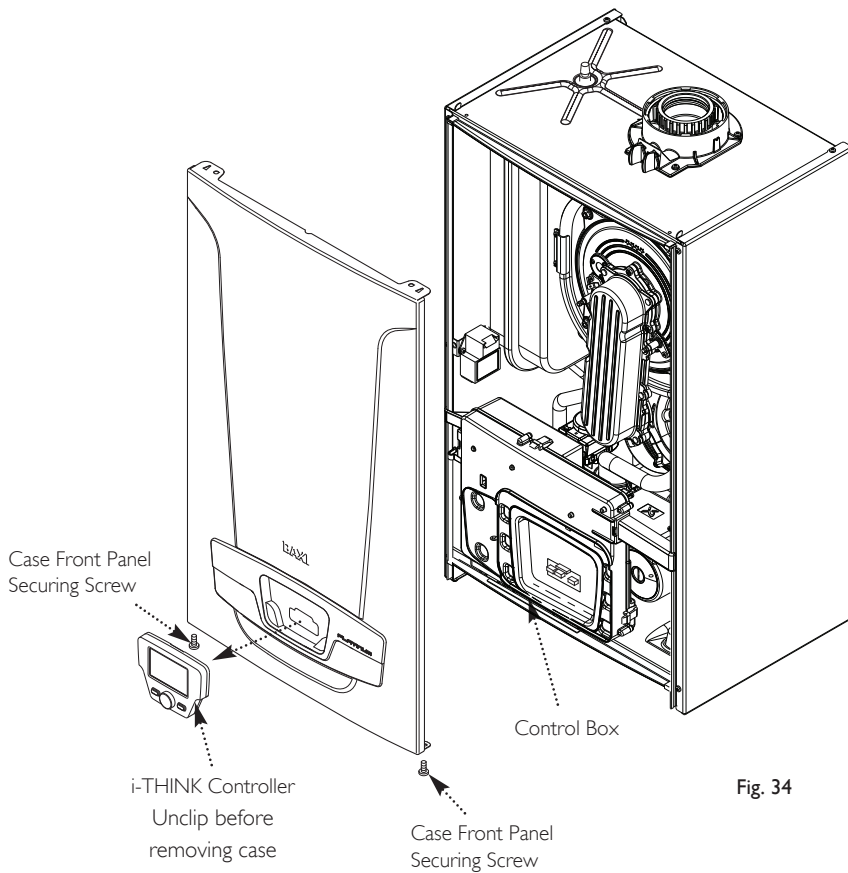

Fig. 34
2. Disengage the securing tab at the left and hinge the control box downwards. Undo the terminal block cover securing screw and remove the cover (Fig. 34).